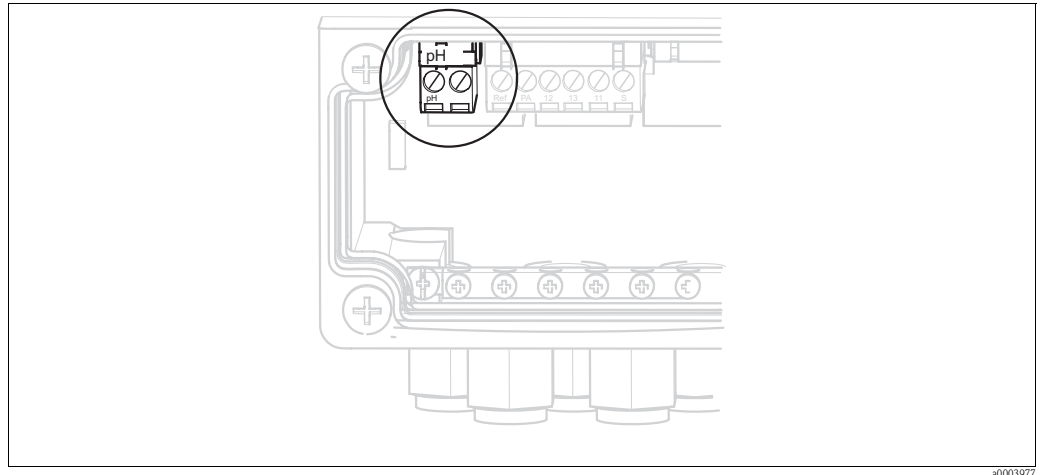

Fig. 28: pH terminal on housing cover
3. Remove the "pH" terminal on the housing cover (see Fig. 28) from the device and replace it with the "DRN/SRC" terminal supplied.